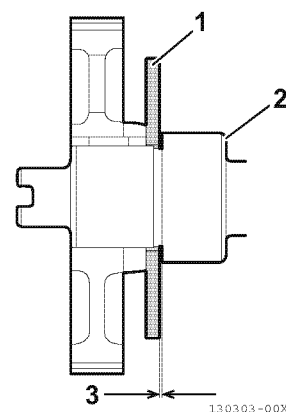

Figure 6-56
- **Method B:** Use a feeler gauge to measure the clearance between the thrust plate (1, Figure 6-56) and front camshaft bearing (2, Figure 6-56). See *Thrust Bearing* on page 6-10 for the service limit.